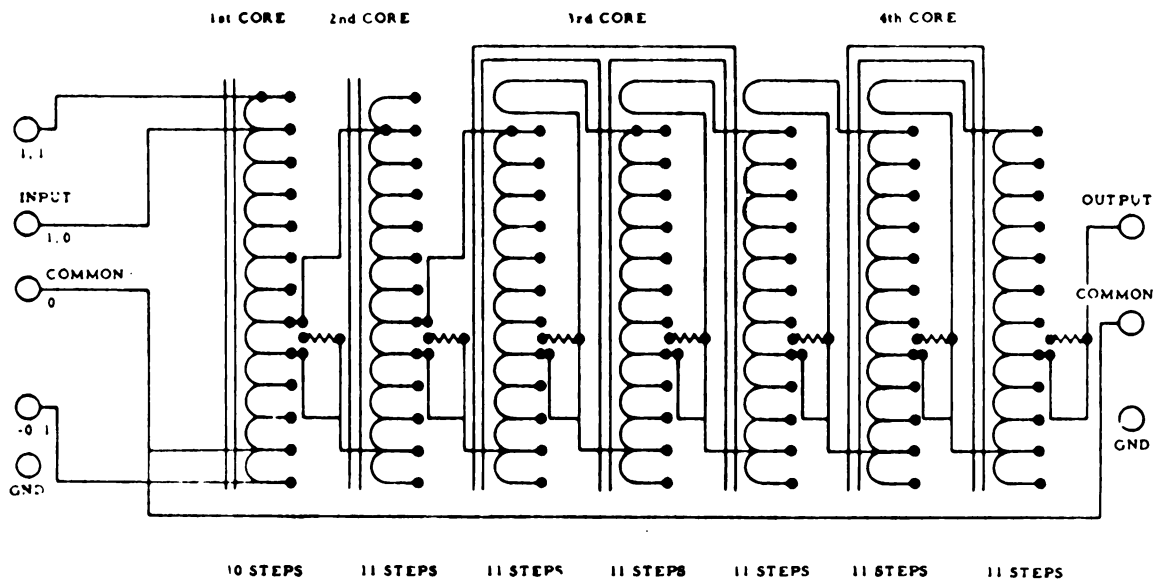

Figure 1-20. Inductive voltage divider schematic.
Analyzing the arrangement and steps for the DT-72A decades shown in figure 1-20, you will realize that the principle of overlap here is very similar to the overlap principle incorporated in the 303A DC voltage standard. In the 303A each decade was designed with 10 normal steps and an 11th step designated as X. You will remember that the X position represented a voltage equal to the voltage of the first step in the following decade. This arrangement existed because of an overlap of values between decades. This inclusion of the 11th step in the decades of figure 1-20 indicates a similar overlap between decades in the DT-72A.
Switching transients are reduced in the design of the instrument by the use of a special make-before-break type of switch. To further reduce instrument losses, the fourth, sixth, and seventh decades are excited by one turn in the preceding decade, as shown in figure 1-20. This method of excitation eliminates losses generated by poor switch contacts.
**Inductive Voltage Divider.** An inductive voltage divider, such as the DT-72A, is an absolute necessity in the calibration of capacitors and inductors and in taking AC ratio measurements. You will get the most accurate measurement if the inductive divider used with the console possesses the capabilities of the DT-72A. This divider, which is sometimes referred to as a decade transformer (dekatron), is basically an autotransformer used to step a given input voltage down to a specific value. The windings on such a device have a division accuracy of one part per million at 400 hertz and a resolution of one part in 10 million. The circuits of the DT-72A are designed so that there is a 10-percent overlap between decades. You can see this overlap in the circuit schematic of figure 1-20.